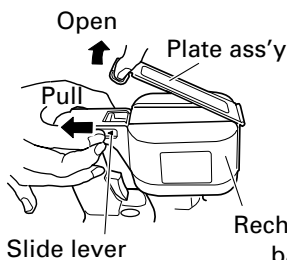
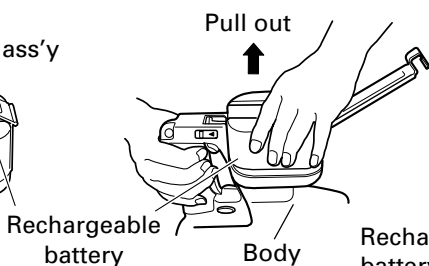

Fig. 3
Fig. 4
1. Turn the body upside down and hold it firmly. Then, open the plate assembly while pulling the slide lever. (Fig. 3) To remove the battery, pull it out while holding the body tightly. (Fig. 4)